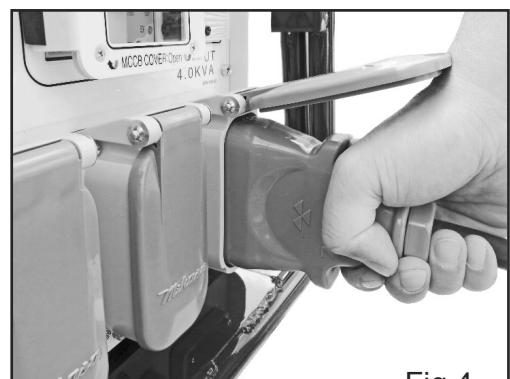

Fig.4
- 7.6 Securely insert the male plug of the machine all the way into the output outlet of the converter. (Fig.4)